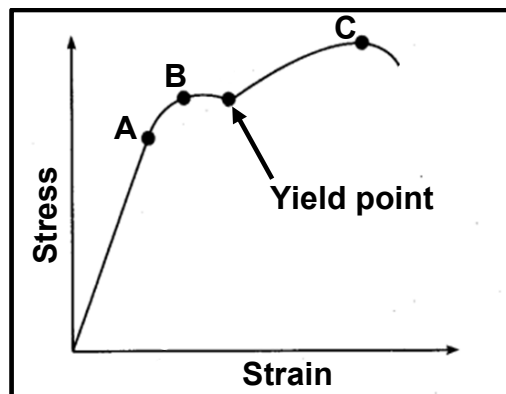

FIGURE 8.3
8.3 FIGURE 8.3 below shows a stress-strain diagram. Label **A–C**.